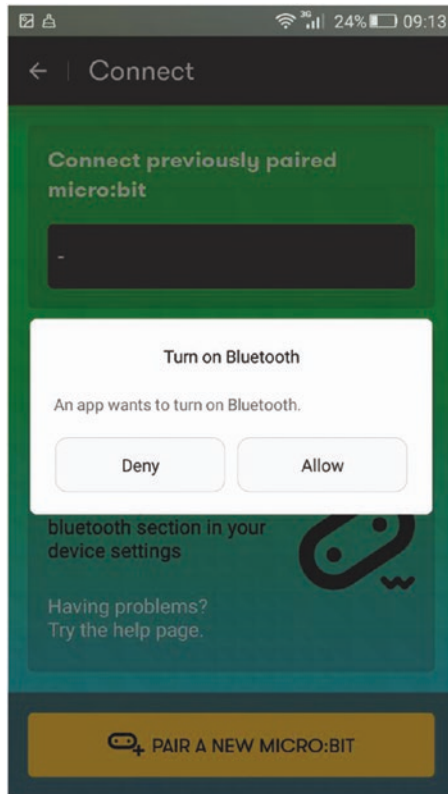

Figure B-3. Turning on Bluetooth
4. Turn on the Bluetooth of your mobile device if you haven't done so already (see Figure B-3).